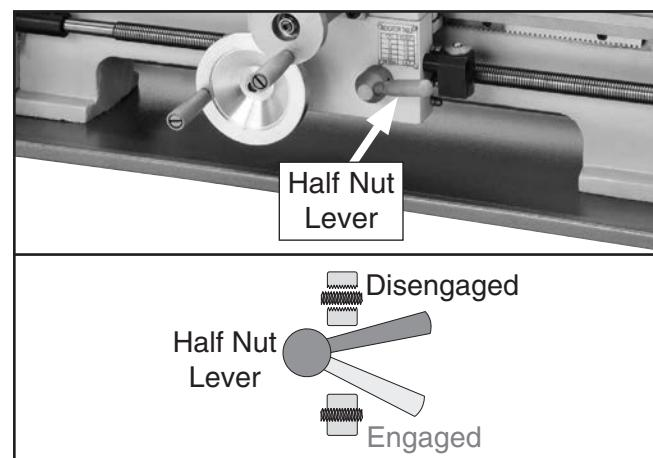

Figure 21. Half nut lever disengaged.
6. Disengage half nut with lever shown in **Figure 21**.